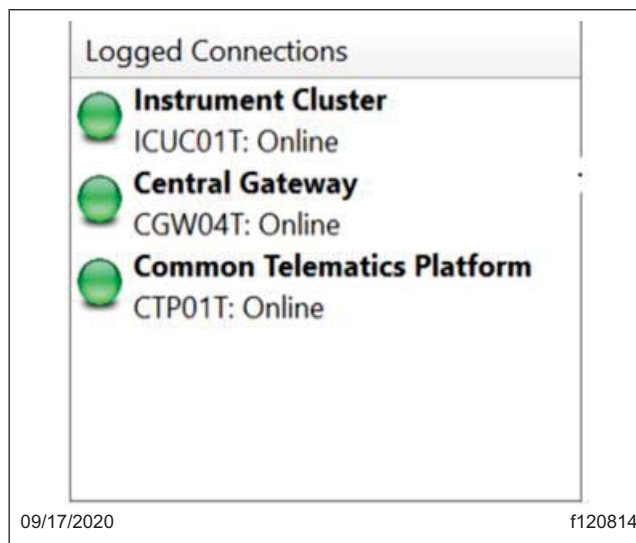

Fig. 5, DiagnosticLink Logged Connections Panel
22. Wait until all three controllers are fully connected and the connection indicators turn green. See Fig. 5.